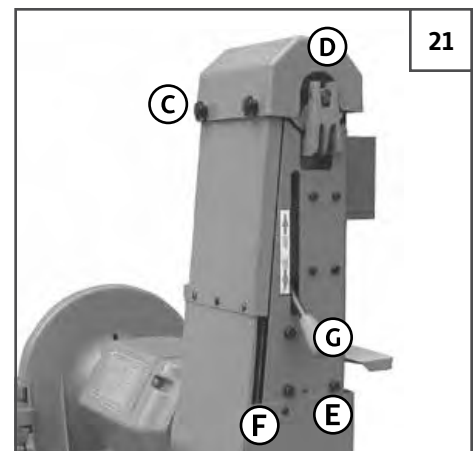

FIGURE 21: CHANGING SANDING BELT
1. Loosen and remove the **BOLTS (C)** from the **UPPER GUARD (D)**. Then remove the **UPPER GUARD (D)**. See Figure 21.
2. Loosen and remove the **SCREWS (E)** and remove the **LOWER GUARD (F)**.
3. Push the **BELT TENSION LEVER (G)** up to release tension.
5. Install the new sanding belt. Make sure the arrows on the belt match the rotational direction of the sander. Then pull the **BELT TENSION LEVER (G)** down.